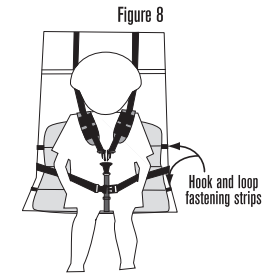

Figure 8
Padded Seat: Match, hook and loop fastening strips together (which are sewn in on back side of seat pad and seat). **Figure 8**
3. Fasten and adjust lap belt snugly. **Figure 8**